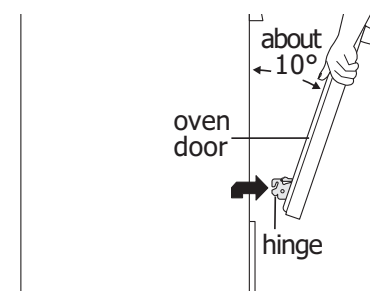

Figure 11: Lifting door from hinge hooks.
3. Grasp the door by the sides, and close the door until the door frame makes contact with unlocked hinges. (Figure 11)
1. Firmly grasp both sides of oven door along the door sides. Do not use the oven door handle (Figure 11).
4. Push the door hinge locks up toward and into the oven frame on both left and right oven door hinges to the locked position (Figure 11).